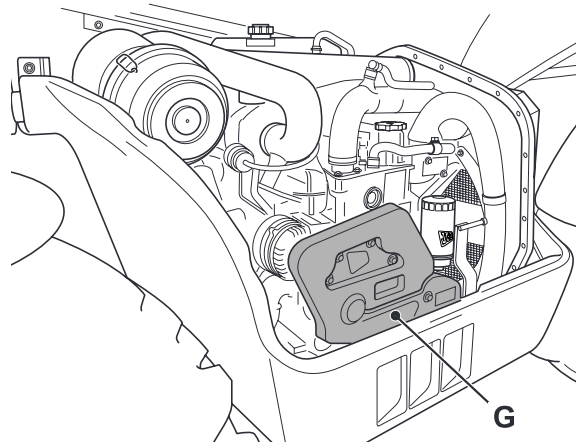

Fig 281.
- 2 Remove the drive belt guard **G**. → Fig 281. (283).